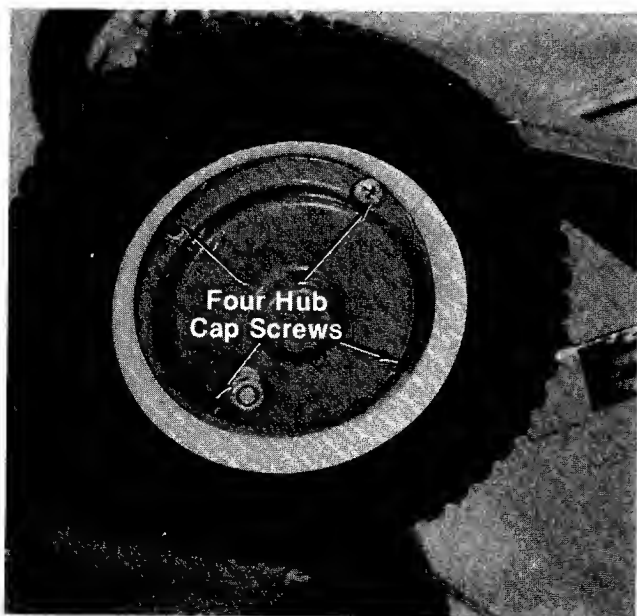

FIGURE 27.
8. Remove both rear wheel hub caps by removing the four screws on each one. See figure 27.